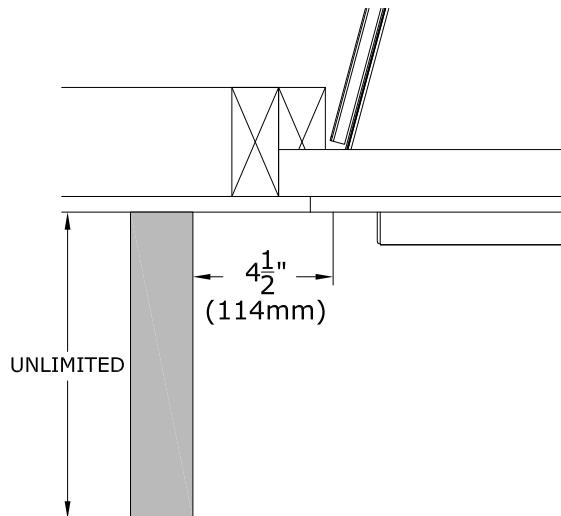

Figure 4.5 - Combustible Sidewall Projection
- Mantel Leg: Follow "Side Combustible Clearance" below. See FIGURE 4.5.
- Combustible Sidewall Clearance: the adjacent sidewall projection is unlimited and starts at 4-1/2" (114mm) from the side of the fireplace. See FIGURE 4.5.